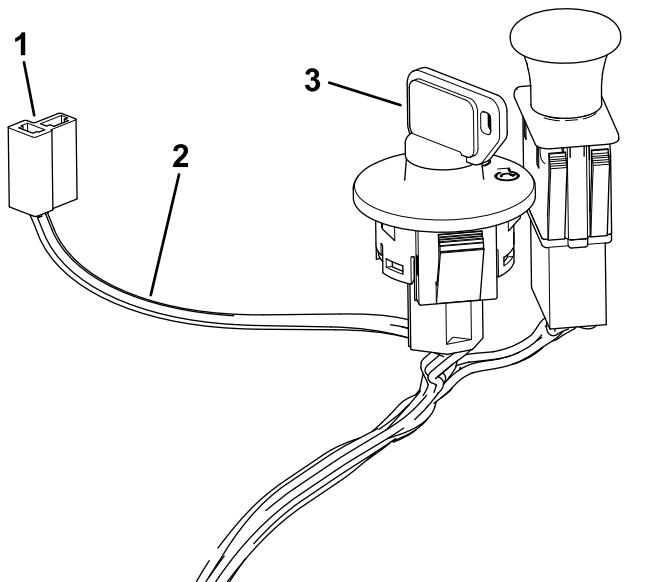

Figure 3
2. Locate the main wire harness leading to the key switch and the hour-meter connector affixed to that wire harness (Figure 3).